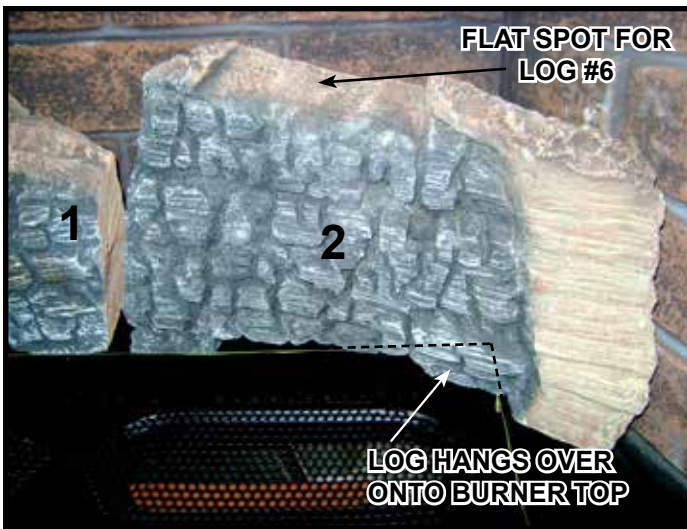

Figure 4. Log #2
**Log #2 (SRV2201-701):** See Figure 2 for additional references. Position Log #2 as shown in Figure 4. Mate Log #2 with the right corner of the burner as shown. Pull the log forward and to the left until it locks into position.